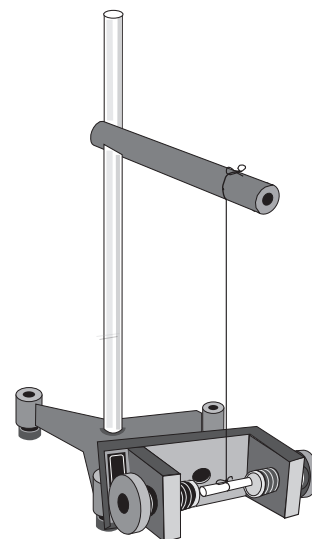

Figure 10
- ① Tie pieces of thread (supplied with set) around the glass rod and the aluminum tube and secure the thread with a small piece of tape to prevent the sample from slipping out of the thread loop.
- ② Hang the glass (diamagnetic) sample from a stand so it is at the same level as the Variable Gap Magnet when the magnet is placed on its side (Figure 10).
- ③ For large class viewing, put the magnet and the stand with the sample on an overhead projector and focus the projector on the sample. The stand will not obstruct the view because it is out of focus.